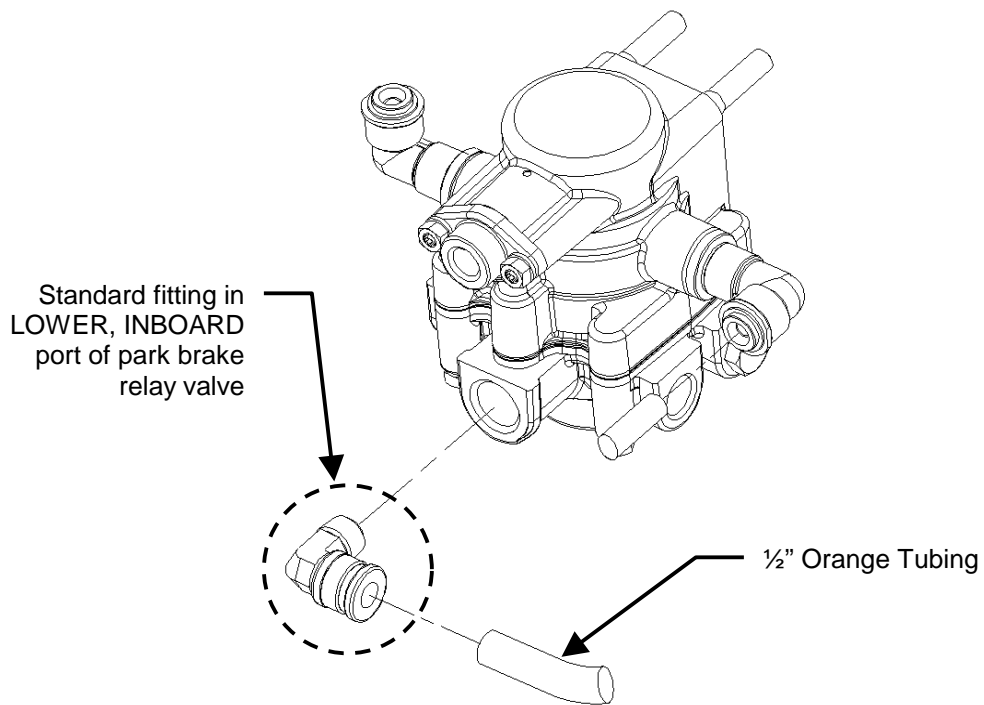

Figure 2
3. Remove the standard fitting from the *LOWER, INBOARD* (see figure 2) port of the park brake relay valve.